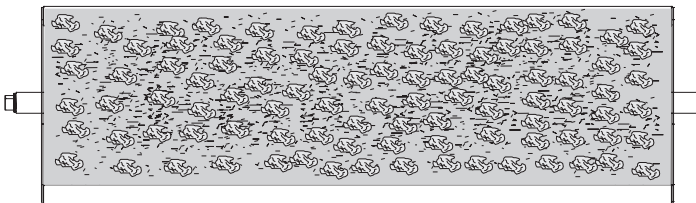

Figure 19
2. Spread the glowing embers over the burner. See Figure 19.